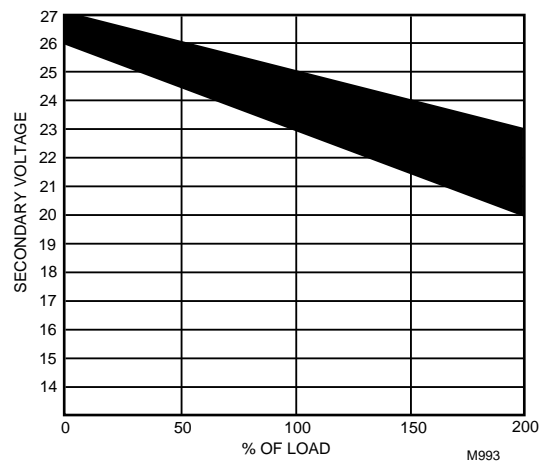

Fig. 17. NEMA class 2 transformer voltage output limits.
This means that four volts are going to be lost between the transformer and the controller; therefore, to assure the controller receives at least 20 volts, the transformer must output more than 24 volts. Because all transformer output voltage levels depend on the size of the connected load, a larger transformer outputs a higher voltage than a smaller one for a given load. Fig. 17 shows this voltage load dependence.
In the preceding $I \times R$ loss example, even though the controller load is only 37 VA, a standard 40 VA transformer is not sufficient due to the line loss. From Fig. 17, a 40 VA transformer is just under 100 percent loaded (for the 37 VA controller) and, therefore, has a secondary voltage of 22.9 volts. (Use the lower edge of the shaded zone in Fig. 17 that represents the worst case conditions.) When the $I \times R$ loss of four volts is subtracted, only 18.9 volts reaches the controller, which is not enough voltage for proper operation.
1. Use a larger transformer; for example, if an 80 VA model is used, see Fig. 17, an output of 24.4 volts minus the four volt line loss supplies 20.4V to the controller. Although acceptable, the four-volt line-loss in this example is higher than recommended. See the following **IMPORTANT**.
To meet the National Electrical Manufacturers Association (NEMA) standards, a transformer must stay within the NEMA limits. The chart in Fig. 17 shows the required limits at various loads.